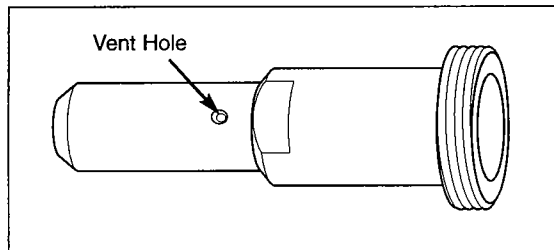

Figure 10
10. Assemble the Nosepiece to the vented-style Nose Housing (Item 22). (See Figure 10)